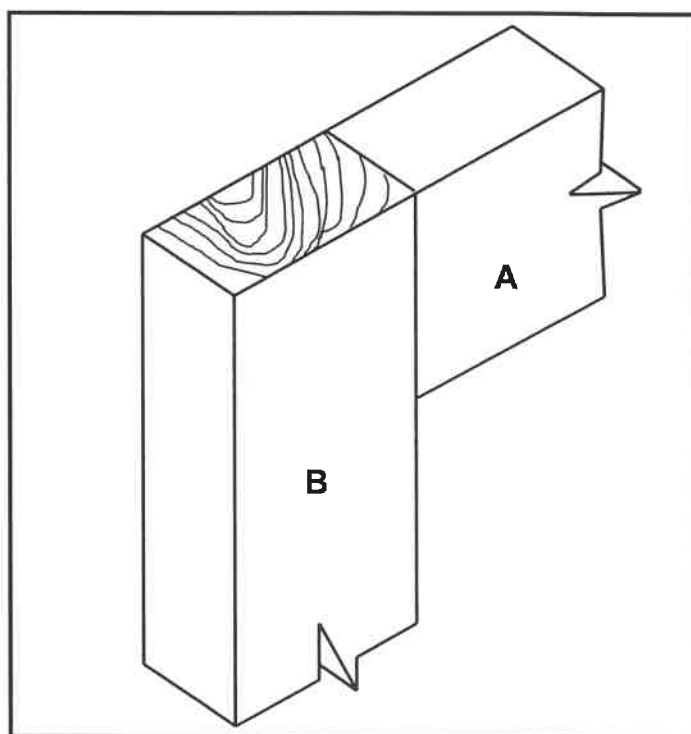

FIGURE 6.2
- 6.2 FIGURE 6.2 below shows the incomplete assembled view of an open haunched mortice and tenon joint. Study the picture and answer the questions that follow.